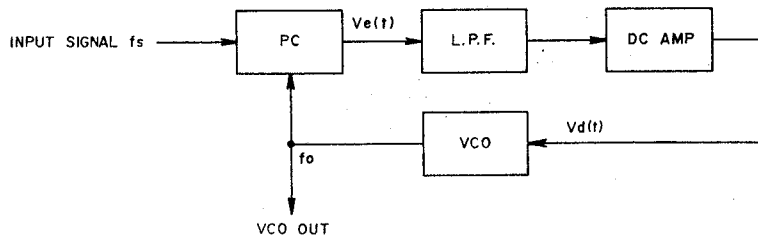

Fig. 13 PLL Circuit
PLL circuit is a kind of feedback circuit and is comprised of a Phase Comparator (PC), a Low Pass Filter (LPF), a Direct Current Amplifier (DC Amp.) and a Voltage Control Oscillator (VCO) as shown in Fig. 13. The PC compares input signal  $F_s$  and VCO oscillator output and generate the difference in signal voltage  $V_e(t)$  proportionately to this phase deviation. This  $V_e(t)$  passes LPF and the DC Amp. and becomes control voltage. This control voltage supplied to VCO and VCO oscillation frequency is DC controlled. When there is no input signal  $F_s$ , because there is also no  $V_e(t)$ , control voltage  $V_d(t)$  becomes zero, and VCO maintains a \*Free-running oscillation frequency. When a signal enters, VCO oscillation frequency  $F_o$  is controlled to narrow the difference between  $F_s$  by means of feedback as described above, and the PLL circuit assumes a synchronous condition. This is referred to as input signal lock. (In case the difference between  $F_o$  and  $F_s$  is too large, the differential signal frequency becomes high and is reduced at the LPF. However, because the VCO control voltage does not change, PLL will not stay within the \*lock range). Because of the ability of the signal interference removing LPF to accumulate the previous voltage in case the PLL deviates from within the lock range due
On the other hand, the difference signal of both (L-R) is changed to high frequency through the use of the sub carrier, and is referred to as the sub channel signal. The carrier is further frequency modulated and sent to the FM stereo transmitter. Accordingly, for composite stereo signal demodulation, the sub carrier used for demodulation at the transmitter must be the same uniform 38 kHz signal as the frequency and phase. If the 38 kHz waveform is asymmetrical, channel separation will become poor. At the PLL employed MPX stereo demodulator circuit, as shown in Fig. 13 first a 76 kHz signal is oscillated and when this passes the divider, a symmetrical 38 kHz signal is obtained.